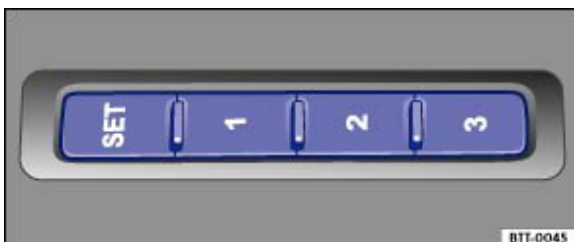

Fig. 55 Memory buttons on the outside of the driver seat
- Press the **SET** button for longer than one second → Fig. 55.
- Press the desired memory button → Fig. 55 and keep it pressed till the end of the activation process.
- Press the **SET** → Fig. 55 button and then keep it pressed till the end of the deactivation process.